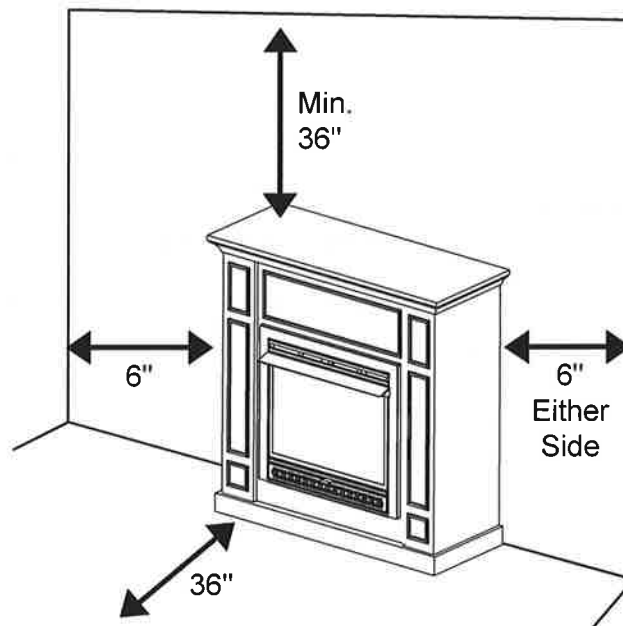

Fig. 6 - Minimum Clearance to Combustible Material
IMPORTANT: Maintain the minimum clearances shown in Figure 6 on page 14. If you can, provide greater clearances from floor, ceiling and joining wall.
A. Clearances from the side of the fireplace cabinet to any combustible material and wall should follow diagram in Figure 6.